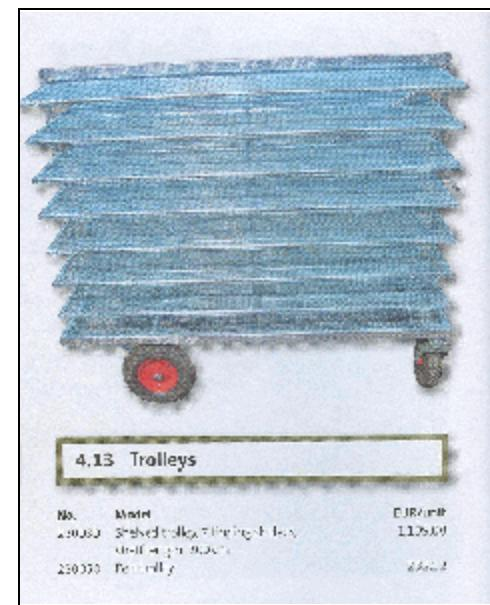

Figure 2: Body Trolley
- **Body Trolleys:** Once removed from the Killing Trolleys the mink are placed on the Body Trolleys while waiting for the pelting process to begin. See Figure 2 for a picture of this equipment.